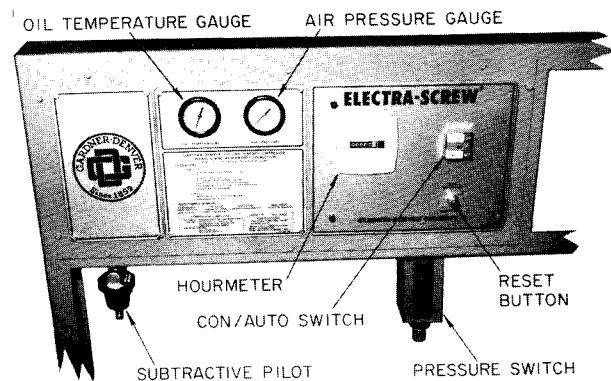

FIGURE 10-4. — INSTRUMENT PANEL
**DUAL CONTROL SYSTEM** (Figures 1-4, 2-4 & 10-4) — The Dual Control system incorporates both the Constant Speed Control and the Automatic Start-Stop Controls systems for use where air requirements vary from high usage for long periods to short and intermittent periods of use. When the air use is high, operate the unit at constant speed to eliminate excessive starting and stopping of the unit. When the air use is low, operate the unit on automatic start-stop to eliminate long unloaded periods and wasted power. The unit control panel (Figure 10-4) incorporates both CON and AUTO sections in the On-Off push button. These buttons are interlocked so that the unit cannot be changed from one mode of operation to the other unless the unit is first stopped.